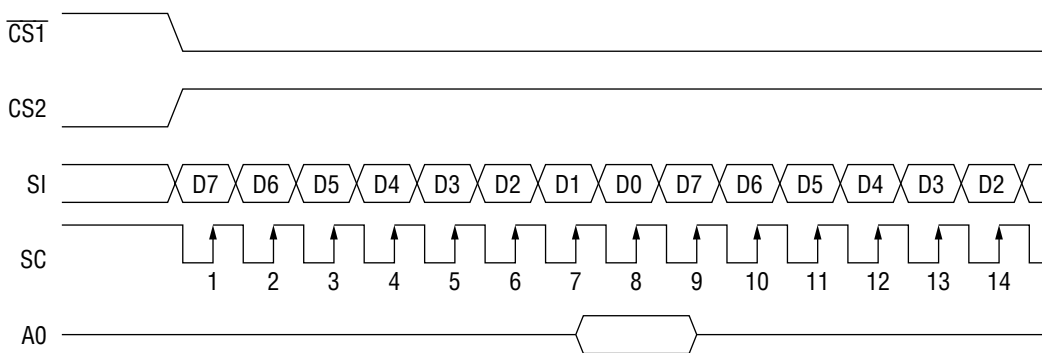

Fig. 1
When the serial interface is selected (P/\overline{S} = "L"), the serial data input (SI) and the serial clock input (SCL) can be accepted if the chip is in the active state ($\overline{CS1}$ = "L" and $CS2$ = "H"). The serial interface consists of an 8-bit shift register and a 3-bit counter. The serial data is read in from the serial data input pin in the sequence D7, D6, ... , D0 at the rising edge of the serial clock input, and is converted into parallel data at the rising edge of the 8th serial clock pulse and processed further. The identification of whether the serial data is display data or command is judged based on the A0 input, and the data is treated as display data when A0 is "H" and as command when A0 is "L". The A0 input is read in and identified at the rising edge of the $(8 \times n)$ th serial clock pulse after the chip has become active. Fig. 1 shows the signal chart of the serial interface. (When the chip is not active, the shift register and the counter are reset to their initial states. No data read out is possible in the case of the serial interface. It is necessary to take sufficient care about wiring termination reflection and external noise in the case of the SCL signal. We recommend verification of operation in an actual unit.)